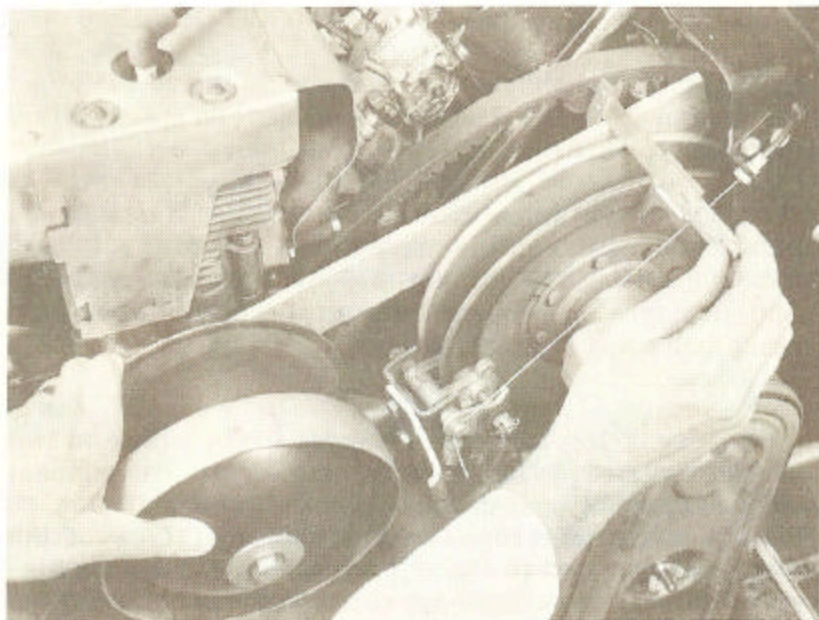

Fig. 7 — Checking Lateral Alignment
2. Use a 18" long straight-edge (9/16" thick on two cylinder engines; 7/16" thick on single cylinder engines) and measure between the two fixed pulleys. See Fig. 7. Place the straight-edge behind the fixed face of the driven pulley (next to the engine), and measure the distance from the straight-edge to the front and rear of the fixed half of the driven pulley. The measurements should agree within 1/32". If not, align the engine, again checking as instructed in step 1, and retighten the engine mounting bolts.